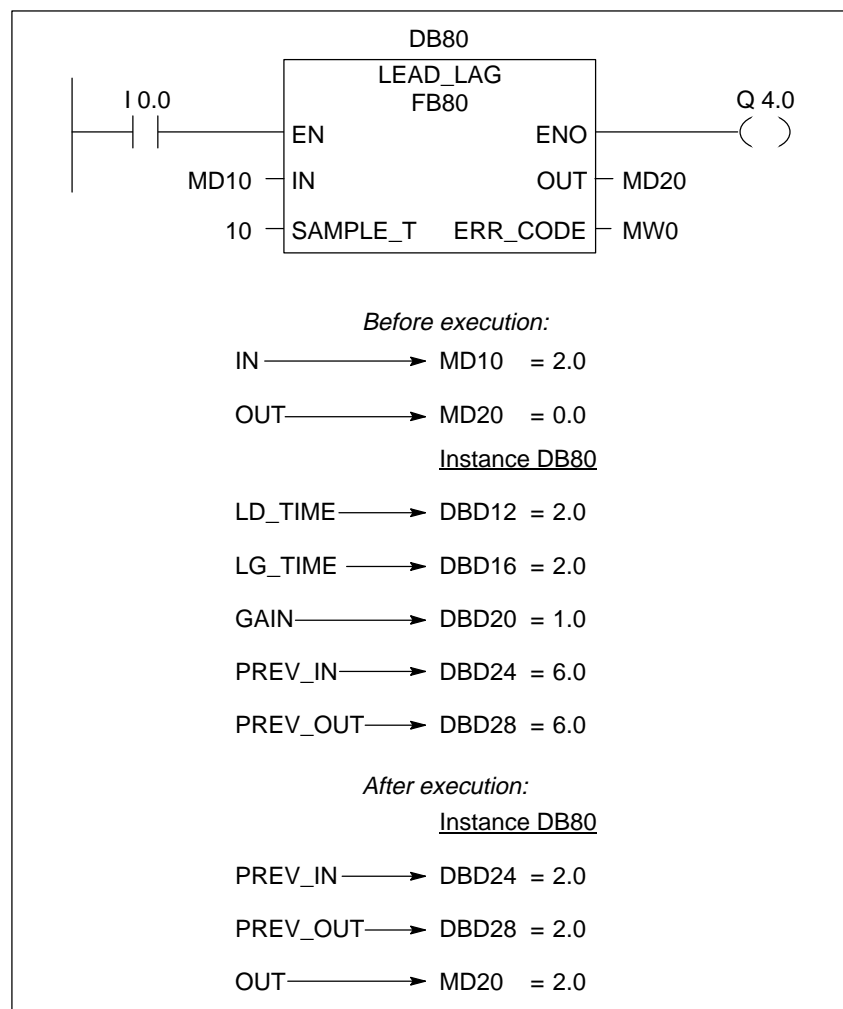

Figure 6-13 LEAD/LAG Algorithm (LEAD_LAG)
Figure 6-13 shows how the LEAD_LAG instruction works. If the signal state of input I0.0 is 1 (activated), the LEAD_LAG function block is executed. In this example, the input value (IN) 2.0 is processed using the LEAD_LAG algorithm to produce the output (OUT).